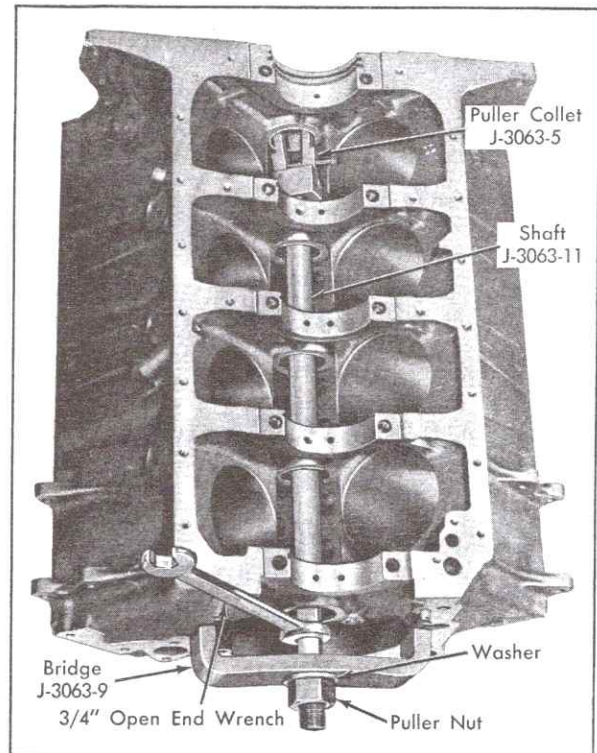

Fig. 6-151 No. 5 Camshaft Bearing Removal
a. Install Puller Collet, J-3063-5, in No. 5 bearing, Fig. 6-151.